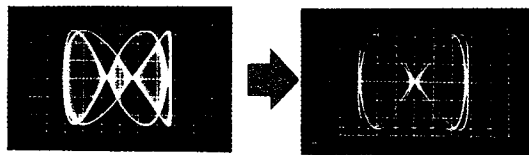

Fig. 3-7. Lissajous pattern
- (2) Adjust the oscilloscope controls to obtain a visible indication. Be sure the scope's horizontal display switch is set for external input.
- (3) Turn the pilot-signal (19 kHz) phase control to obtain an in-phase and stable lissajous pattern as shown in Fig. 3-7.